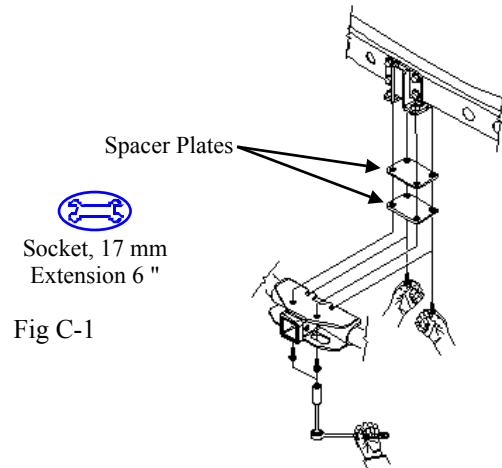

Fig C-1
-  ii. Reinstall the one (1) M6 bolt. Tighten to 71 +/- 18 lbf-in (8 +/- 2 N-m).
-  1. Hand start two (2) M12-1.25x45 black bolts through two (2) spacer plates into forward most set of holes. (Fig. C-1)
2. Slide hitch onto pre-installed bolts using open ended slots to support the hitch. (Fig. C-1)
-  3. Hand start two (2) M12-1.25x45 black bolts to rear most position to secure the hitch and spacer plates using a socket extension and a 17mm socket. Bolts can be fed through chain holes. Do not tighten. (Fig. C-1)